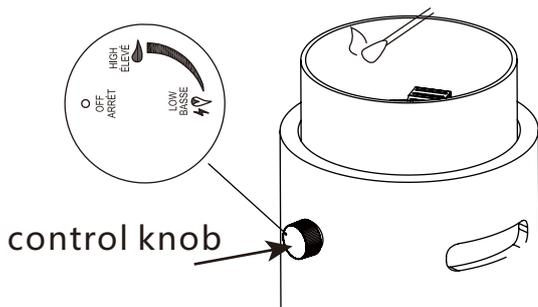

Figure 7
7. Use a match or a lighter to light the fire bowl (see Figure 7). Continue to press the control knob for 15 seconds before it is released.